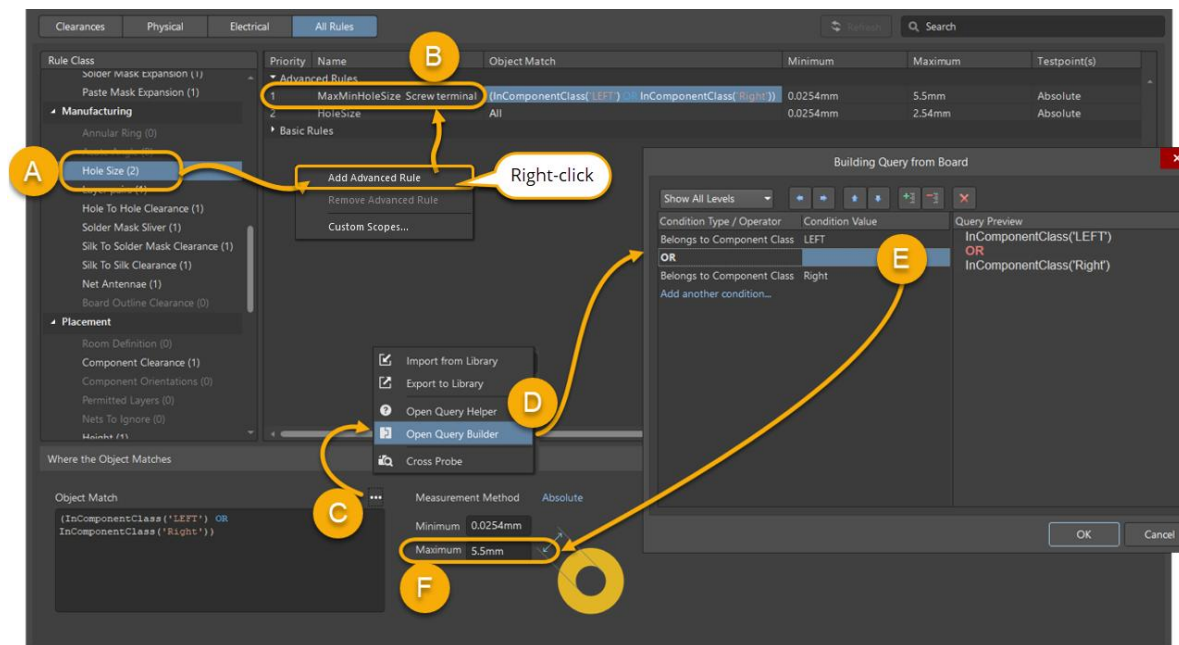

Figure 21. Create Advanced Query Rule
68. Next, you will add a new advanced rule for the Hole Size. See Figure 21.